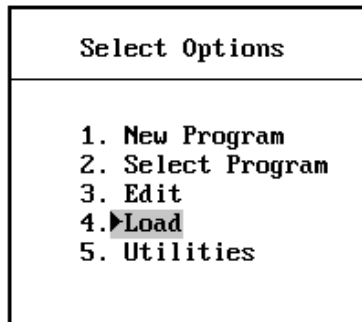

Figure 3-8, Compiling and Loading a Program
2. From **Menu E, Select Options**, highlight **Load** and press **ENTER**. Refer to **Figure 3-8**.